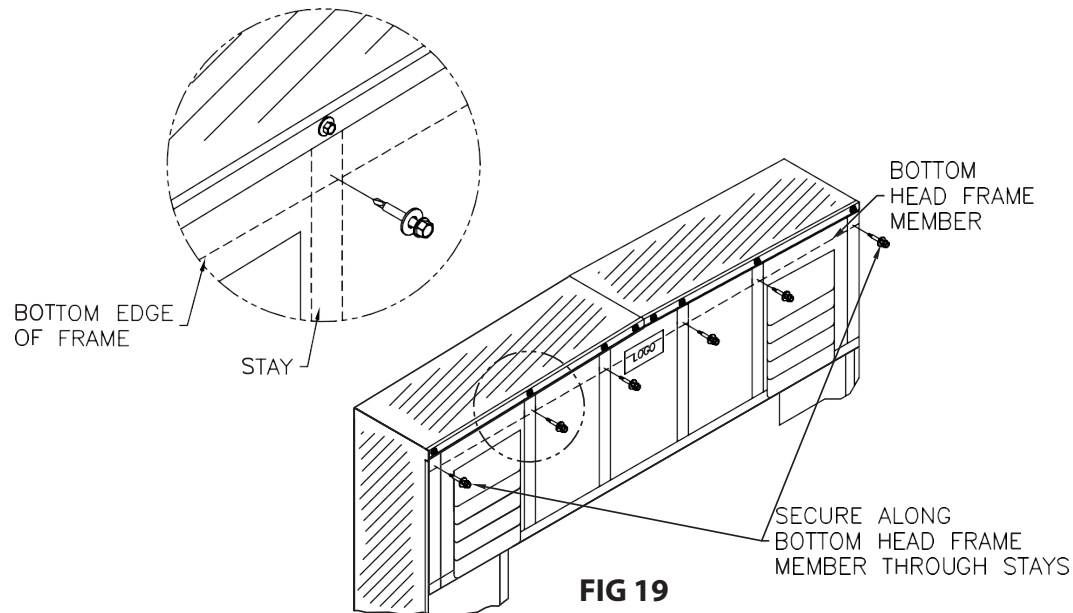

FIG 19
- c. Attach Header Curtain to bottom Head Frame member (Figure 19).